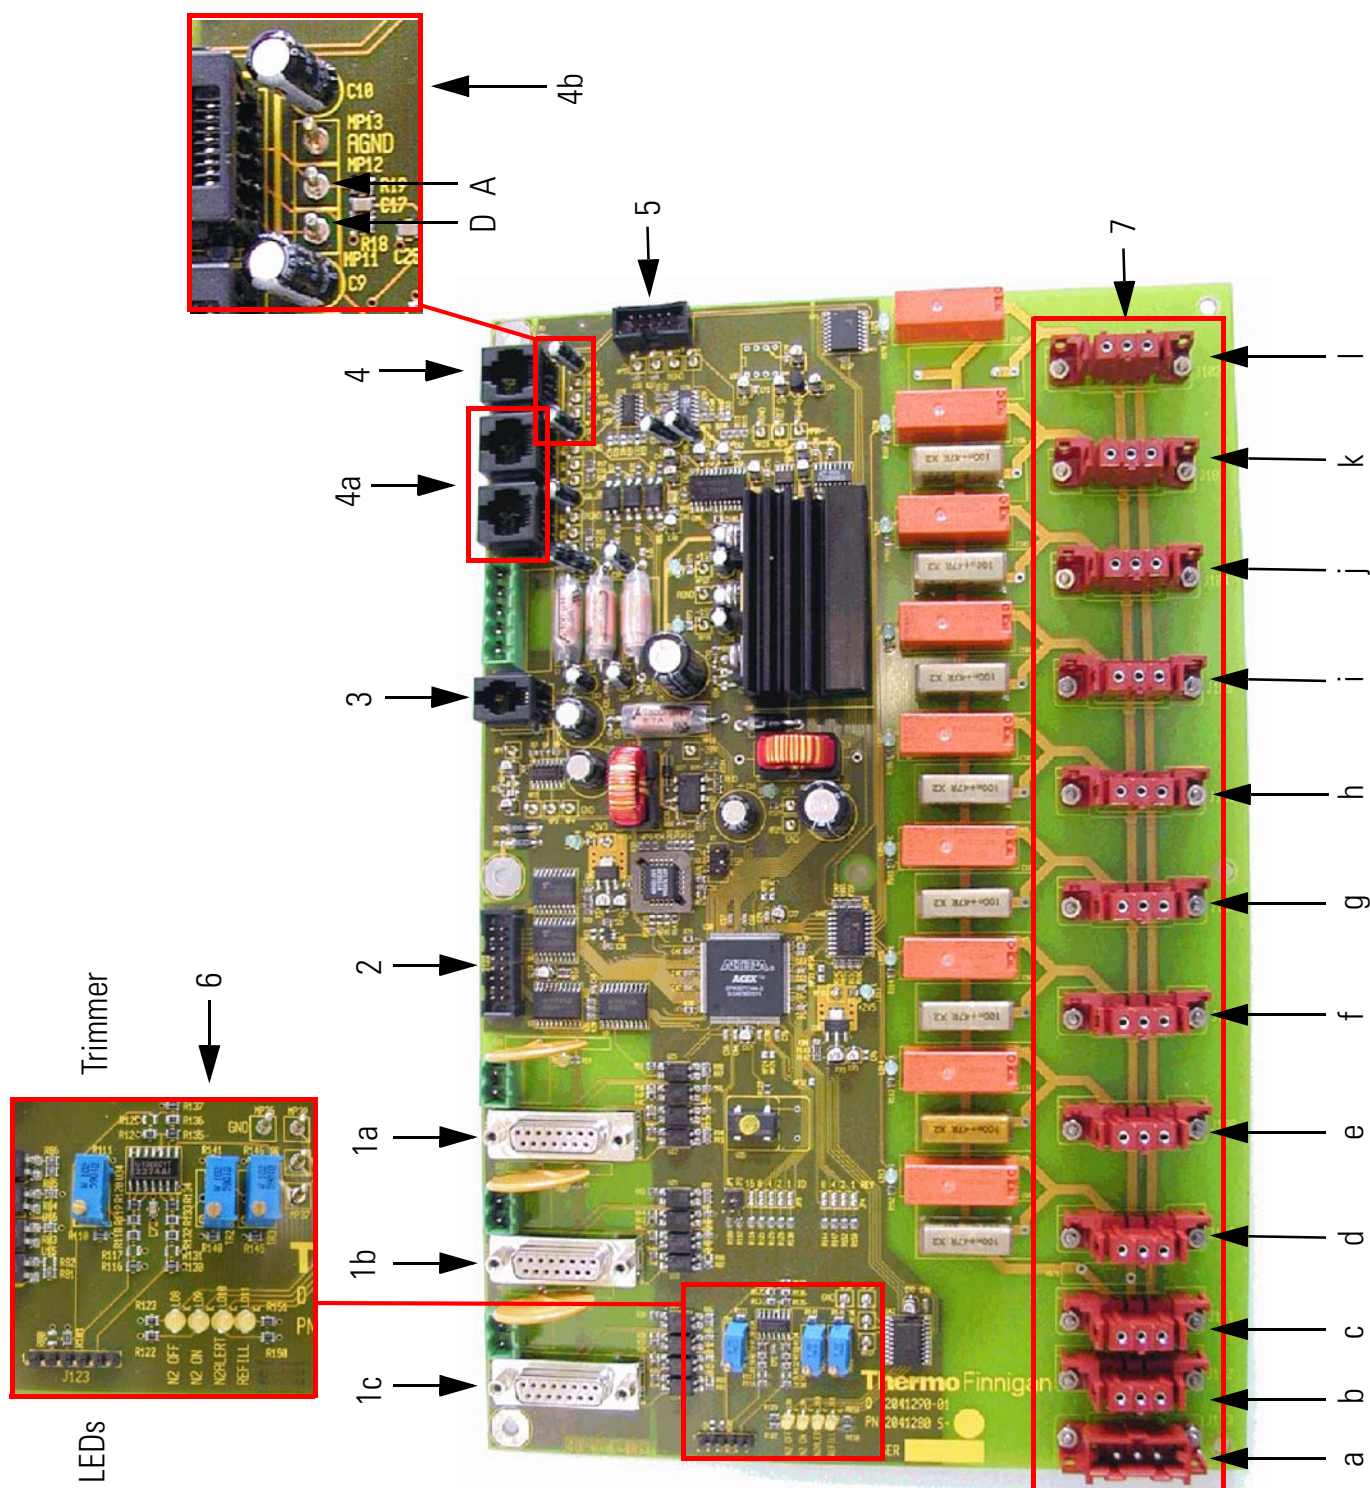

Figure 2-63. Power Distribution Board
The power distribution board (synonymously called power distributor, Figure 2-63, and **6** in Figure 2-53) regulates major parts of the IRMS:
*See Figure 2-63.